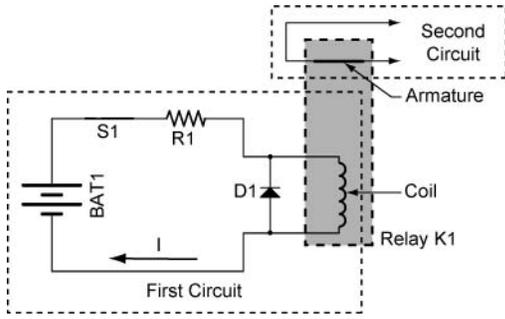

**Figure 4: De-energized SPDT Relay – Spring Holds Armature in the Up Position
- Major Parts of a Mechanical Relay (Figures 4 and 5):